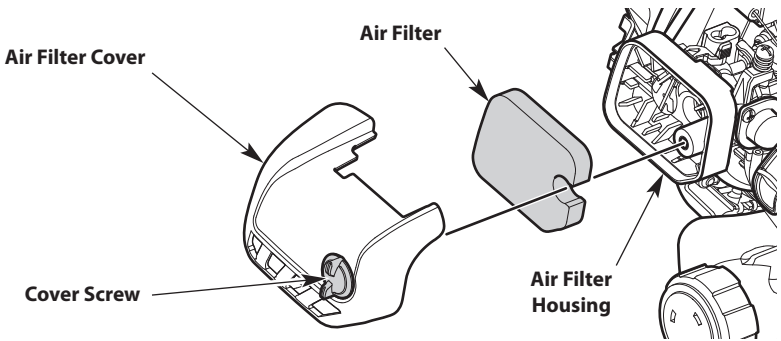

Fig. 20
1. Open the air filter cover by unscrewing the cover screw (Fig. 20).
2. Remove the air filter from the air filter housing (Fig. 20).
6. Reinstall the air filter in the air filter housing (Fig. 20).